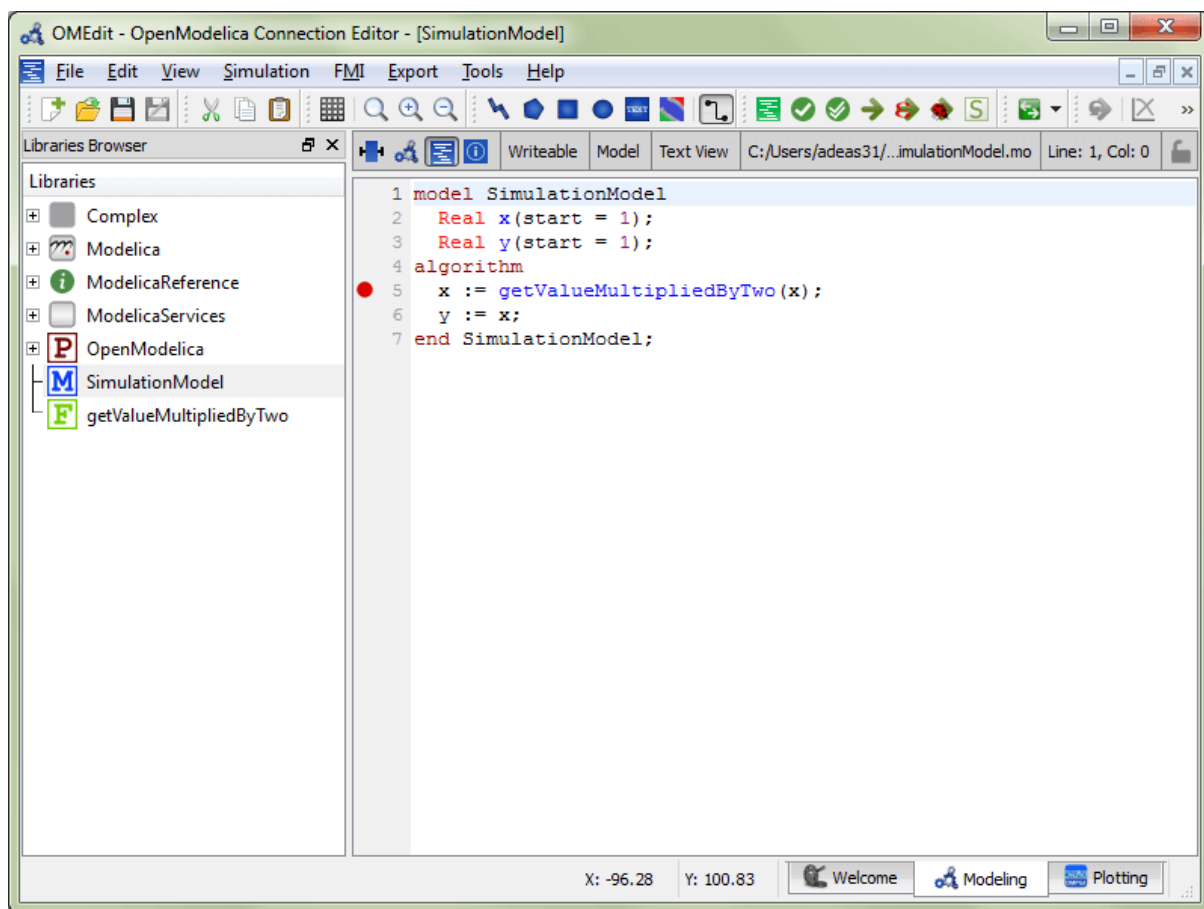

Figure 5.3: Adding breakpoint in Text View.
- Click directly on the line number in Text View, a red circle is created indicating a breakpoint as shown in Figure 5.3.